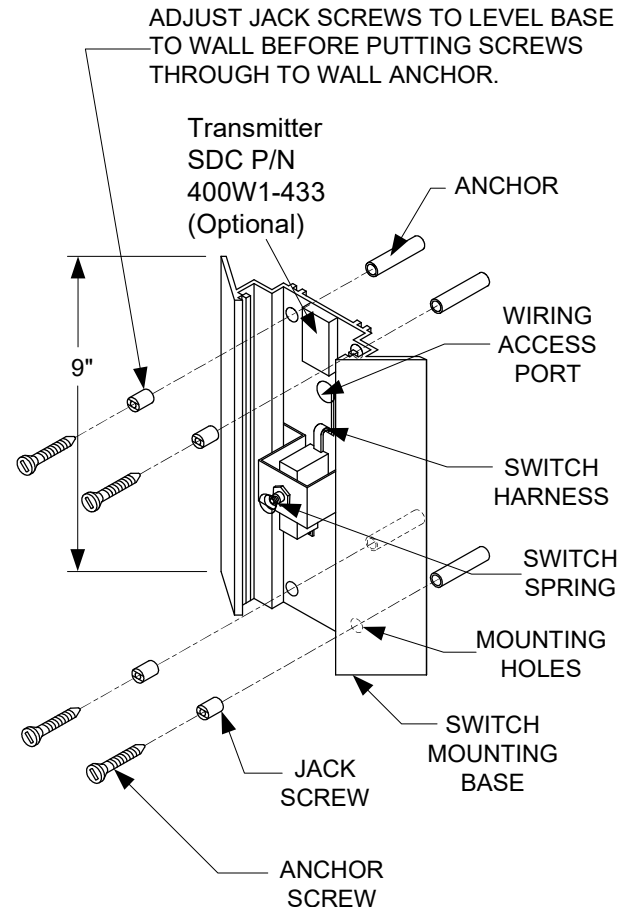

FIG. 1
3. **For Wall Mount:** Position the MOUNTING BASE at the required location. Mark the locations of the MOUNTING HOLES. Install the appropriate supplied ANCHORS into wall. Adjust JACK SCREWS to prevent the MOUNTING BASE from conforming to irregularities in the wall. Install the supplied ANCHOR SCREWS through the JACK SCREWS and MOUNTING BASE into the ANCHORS. (see FIG. 1).
**Wireless:** Using supplied wire nuts, connect the wires from the switch harness to TRANSMITTER activation wires. Use double sided tape (supplied with transmitter) to secure TRANSMITTER to the upper portion of the MOUNTING BASE as shown (see FIG. 1).